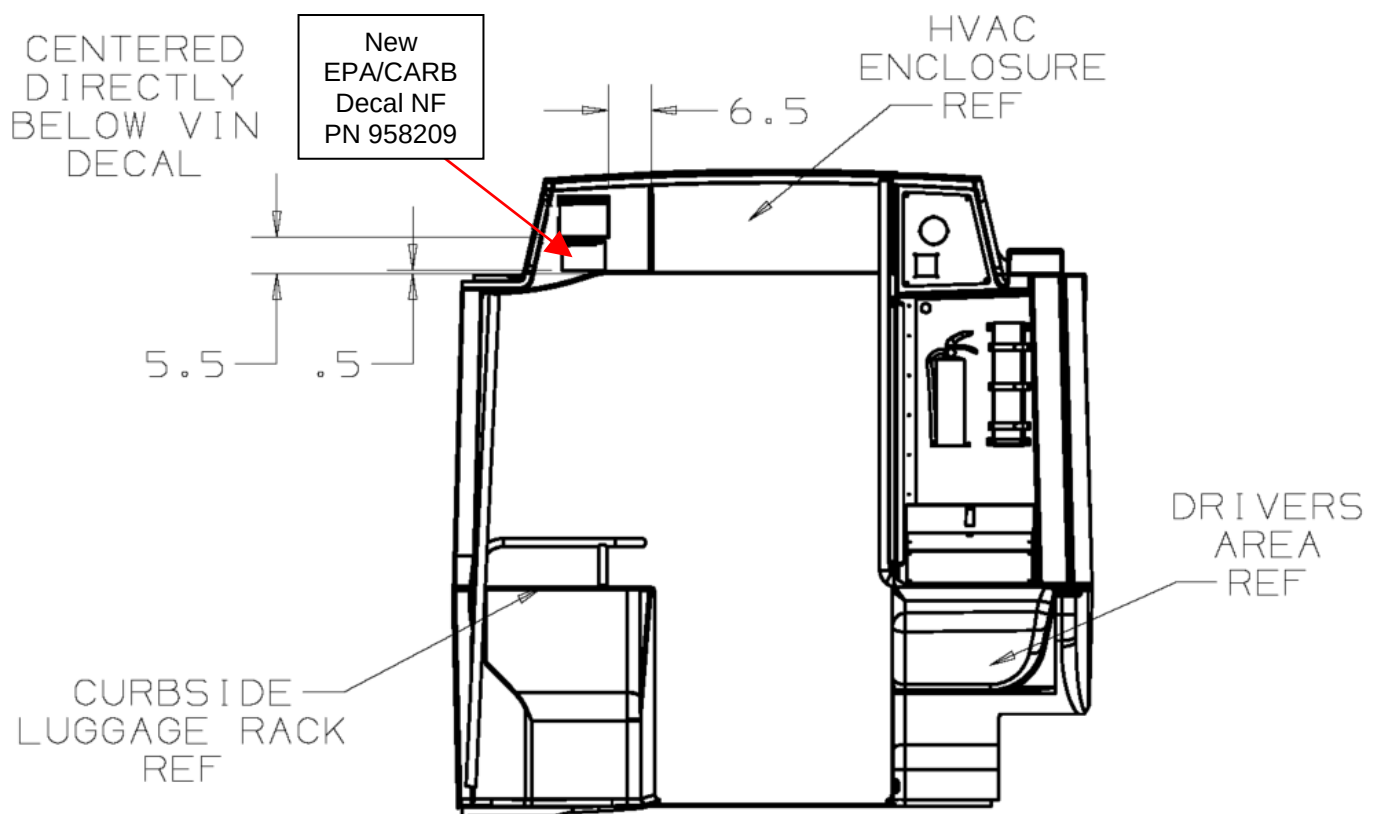

Figure 1 – EPA/CARB Decal Location
3. Remove and discard the existing EPA/CARB decal. See Figure 1.
5. Install new EPA/Carb decal (NF PN 958209). Center the new decal directly below the VIN decal as shown in Figure 1.